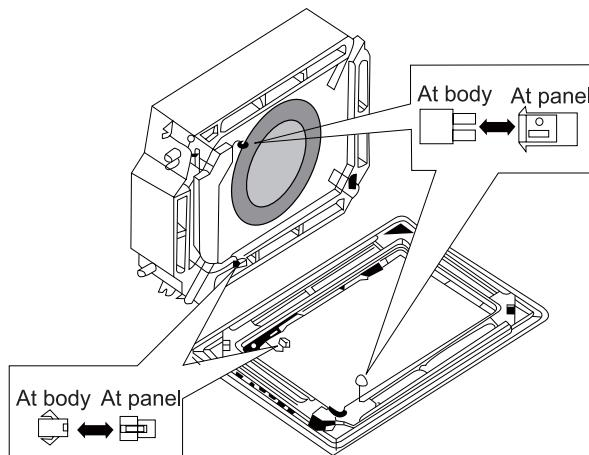

Fig.37
(4). Wire the swing flap motor as shown in Fig.37.